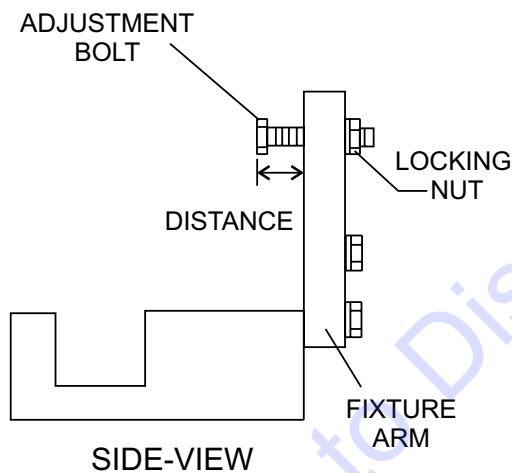

Figure 50. Trowel Arm Adjustment Tool Side View
Figure 50 illustrates the trowel arm adjustment tool with a trowel arm inserted. As each trowel arm is locked into the fixture, the arm bolt is adjusted to where it contacts a stop on the fixture. This will consistently adjust all of the trowel arms, keeping the finisher as flat and evenly pitched as possible.
5. Adjust the bolt distance shown in Figure 50 to match one of the arms. The other arms will be adjusted to match this distance.